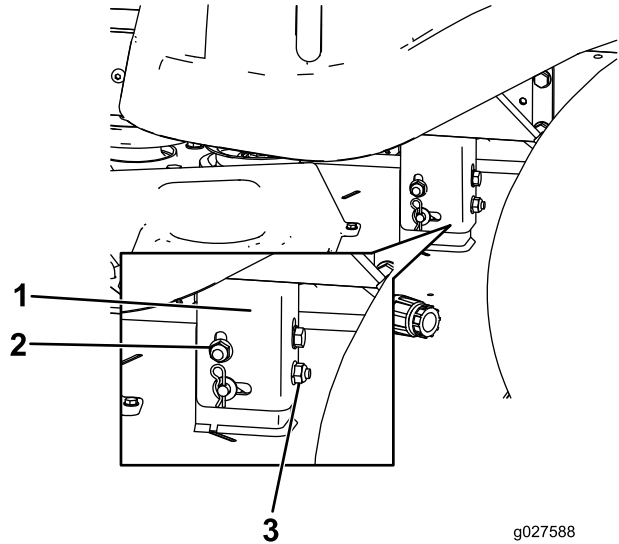

Figure 54
- Raise or lower the left side of the mower deck by rotating the rear nut. (Figure 54).